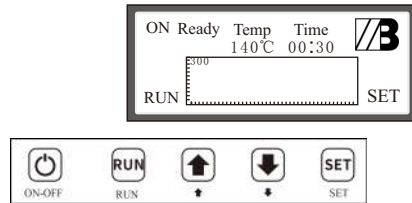
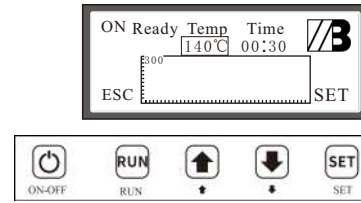

Fig. 6
Fig. 7
(1) After pressing “POWER SUPPLY”, “PRODUCTION” is in highlighted state, which means being selected. Press “RUN” as shown in Fig. 6 and press “SET” button to select “PREHEAT”, “TEMPERATURE” and “TIME” modes. When the heating mode is “PREHEAT”, press “SET” button to switch “TEMPERATURE” column to the highlighted state, as shown in Fig. 7. Press “PAGE UP” button and “PAGE DOWN” button to conduct preheating temperature preheating setting. The minimum preheating temperature shall be set as 70°C. Press “SET” button to switch “TIME” to the highlighted state and conduct time setting.